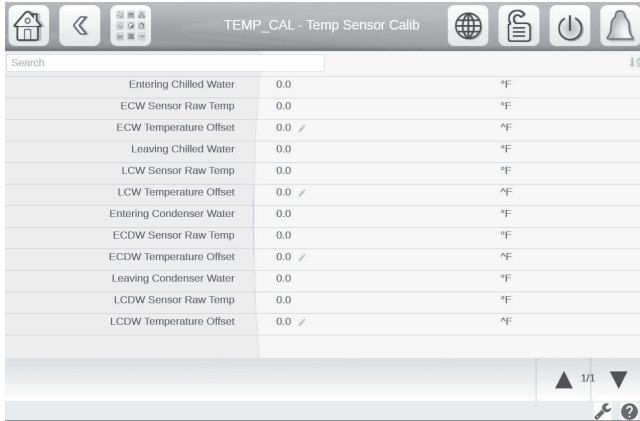

Fig. 52 — Temp Sensor Calib Screen, Page 1
- In the Temp Sensor Calib screen, enter the temperature offset for the appropriate sensor as calculated in Step 4. See Fig. 52.